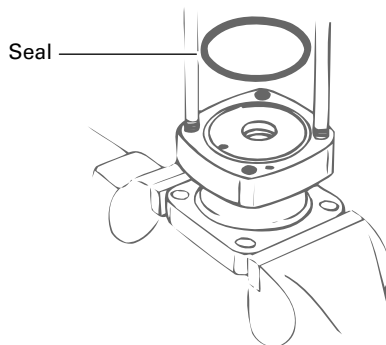

Figure 16
26. Reposition motor in vise with output shaft down. Clamp across edges of retainer as shown in Figure 16.
28. Install 2 studs (earlier models), diagonally opposed, in bolt holes of bearing housing (see Figure 16). If you replace studs with bolts, use 2 studs for alignment purposes when stacking parts.
29. Apply a light film of petroleum jelly on 95,0 mm [3.74 inch] I.D. seal. Install seal in bearing housing (see Figure 16).